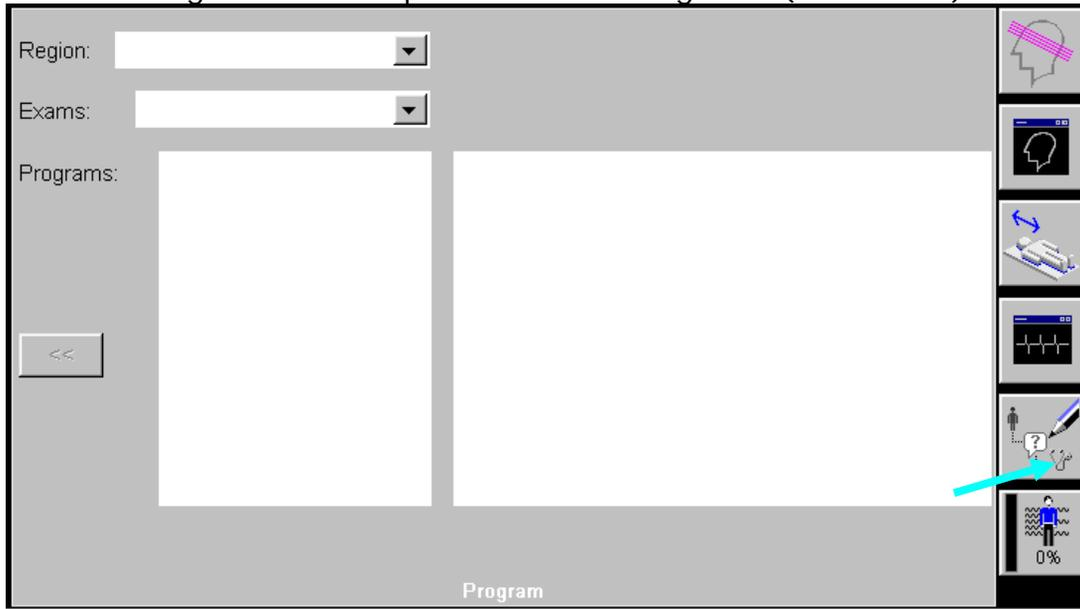

Figure 4: Siemens protocol editing tool.
3. Go to the protocol editing tool in the Exam card. It is the icon at the bottom right that has a pencil on it. See Figure 4 (blue arrow).